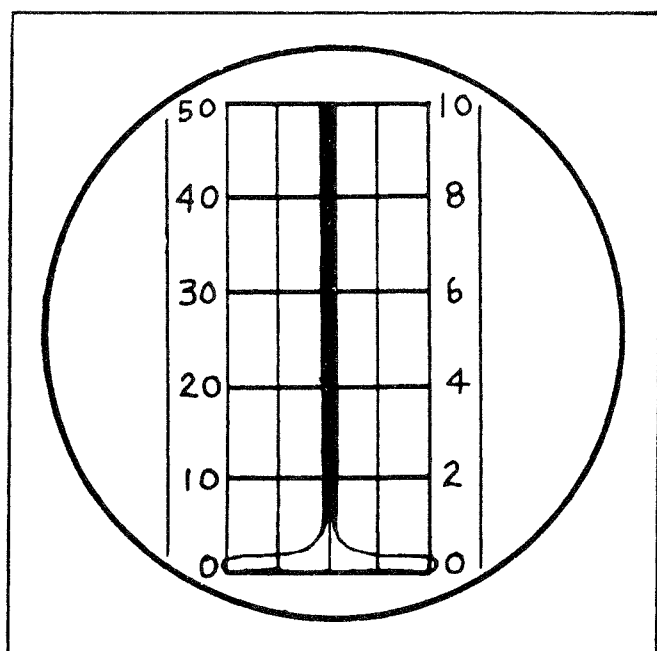

Figure 2-1. Indicator Screen, Sweep Trace and Transmitter Signal
(e) Turn the "GAIN" control on the control box to the maximum counter-clockwise position, and check the operation of the "FOCUS" and "INTENSITY" controls to see that a sharp, clear trace can be obtained on all three positions of the range switch. (See fig. 2-1.)
(h) With the "TRANS. KEY" switch in the "TRANS." position, a signal should appear at the bottom of the trace, as in figures 2-1 and 2-2. This signal indicates normal transmitter operation. If this signal does not appear, replace the receiver-transmitter unit with another, and send the defective unit to the repair station.
(1) Whenever possible, mount the receiver-transmitter unit so the side containing the connectors and adjustments is easily accessible to the operator when he is sitting in a normal position in front of the indicator.
(2) Minimum clearance space of three inches should be left at the ends and back of the unit to allow free vibration on the shock mounting, and for proper ventilation of the unit.
(3) Fasten the receiver-transmitter shock mounting, Mounting FT-416-A, securely to the structure of the plane, and ground it carefully to the structure of the plane with heavy bonding braid.
(4) Place the receiver-transmitter unit on the shock mounting with the pins on the lower rear corners of the unit inserted in the holes on the mounting. Lift the two knurled nuts on the front of the mounting and tighten them down securely on the two lugs on the lower front corners of the unit.
(5) Attach the interconnecting cables as shown in the cording diagram, figure 2-1. Leave sufficient cable slack between the receiver-transmitter unit and the first cable clamp so the unit can rock freely on its shock mounting without straining or causing sharp bends in the cables.
(6) If it is impractical to mount the receiver-transmitter unit where it is accessible to the operator, a remote-tuning attachment may be used, and the unit placed as required. However, the above instructions regarding clearance space, mounting, and cable connection still apply. The remote-tuning device is described in section I, paragraph 5b, and the following instructions describe its installation.